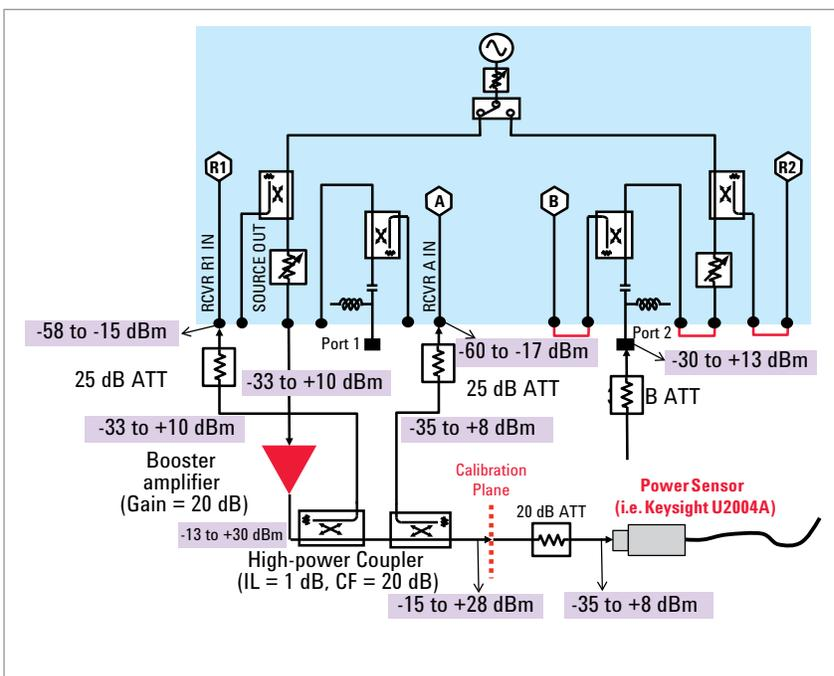

Figure 9. Connecting a power sensor for power calibration
- (1) Connect the power meter/sensor to the E5072A. Add an attenuator or coupler if necessary¹. (Figure 9)
- (2) Configure setup of power sensor. (In this case, instructions are given for calibration with a USB power sensor)